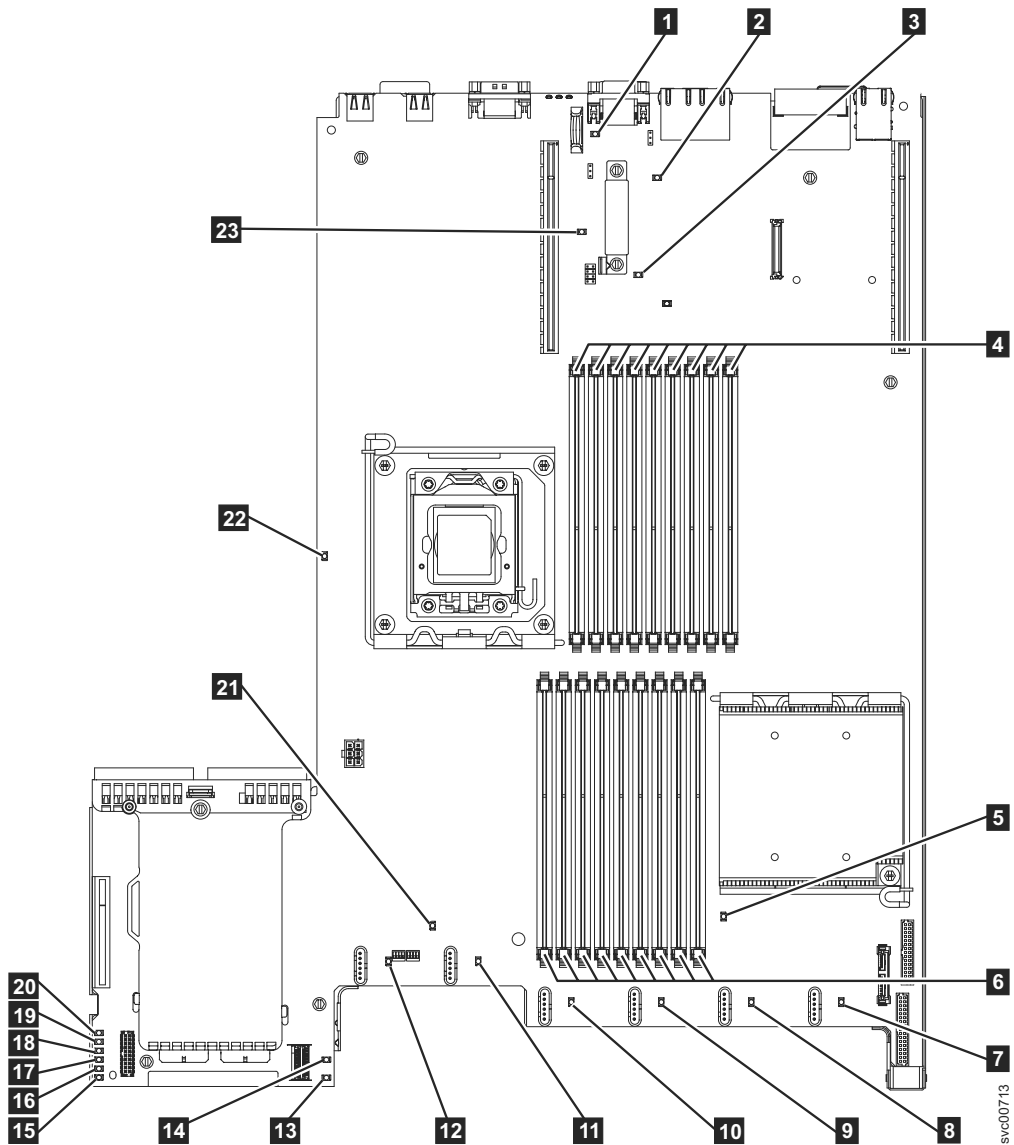

Figure 91. SAN Volume Controller 2145-CG8 system board LEDs diagnostics panel
- YES** See Table 60 on page 289 and perform the action specified for the specific light path diagnostics LEDs. Then go to step 3 on page 292. Some actions will require that you observe the state of LEDs on the system board. Figure 91 on page 282 shows the location of the system board LEDs. The fan LEDs are located adjacent to each FAN. To view the LEDs you need to perform the following actions: